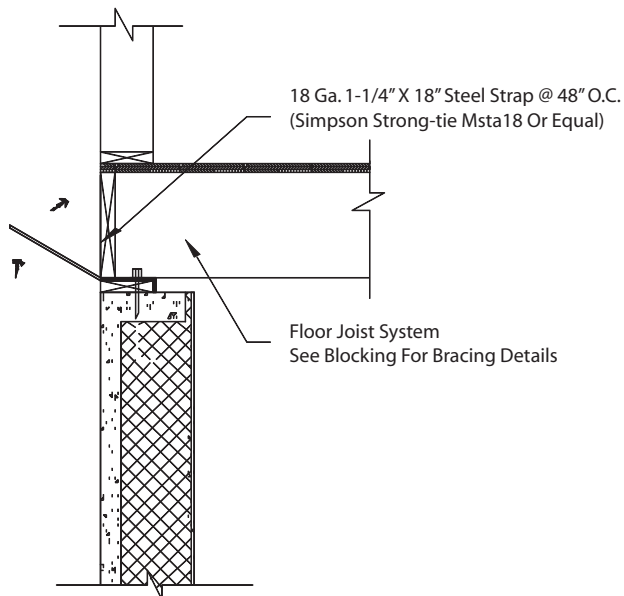

Figure 7
- (1) Where required for additional capacity, an additional 2 x 6 may be utilized.
- (2) In the case where a garage wall runs into a foundation wall, a 2 x 10 treated sill plate must be used in place of the 2 x 6 to properly distribute the loads.
b) Strong-Tie Strap Connection (see figure 7, Pg. 11)
c) Conventional Framing Connection (see figure 7, Pg. 11)